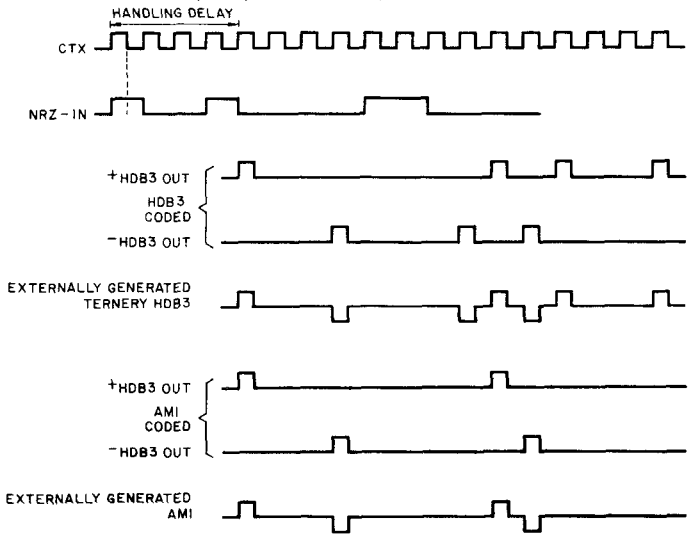
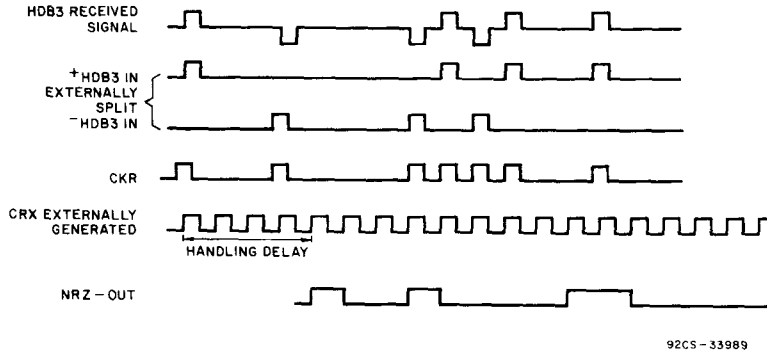
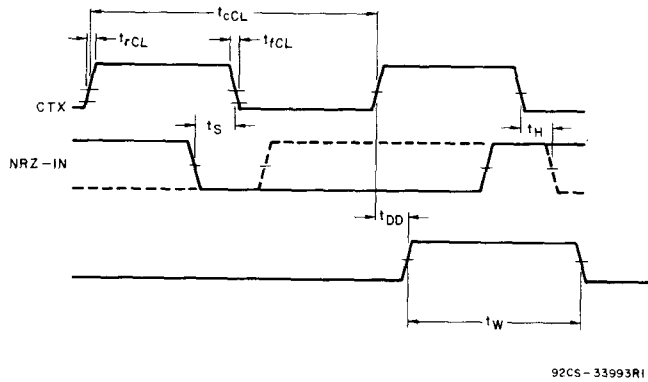

Fig. 2 - Transmitter coder operation timing waveforms - NRZ to HDB3/AMI coding.
Fig. 3 - Receiver decoder operation timing waveforms - HDB3 to NRZ decoding.
Fig. 4 - Transmitter coder timing waveforms.
* See Fig. 4
§ See Fig. 5 * See Fig. 4 † See Fig. 2 # See Fig. 3
Transmitter Coder (See Fig. 2)
Receiver Decoder (See Fig. 3)